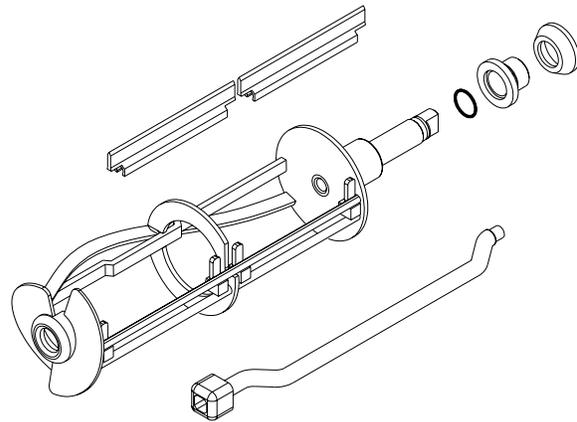

Fig. 5
7. Remove the dasher assembly (Fig. 5).
5. Install the rear seal with the **RED RUBBER** portion toward **the REAR** of the dasher (Fig. 5).